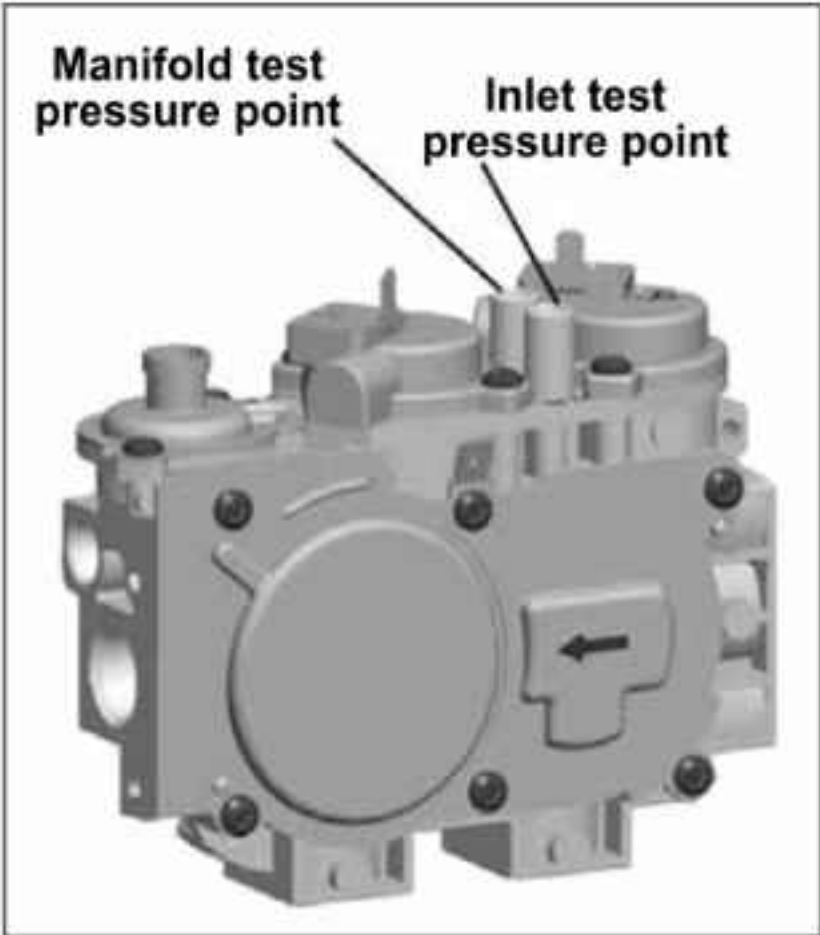

Figure 59: Pressure Test Points.
- b. Place a ¼" silicone tube over either pressure port on the valve (refer to Figure 59). Attach the tube to a mono meter.